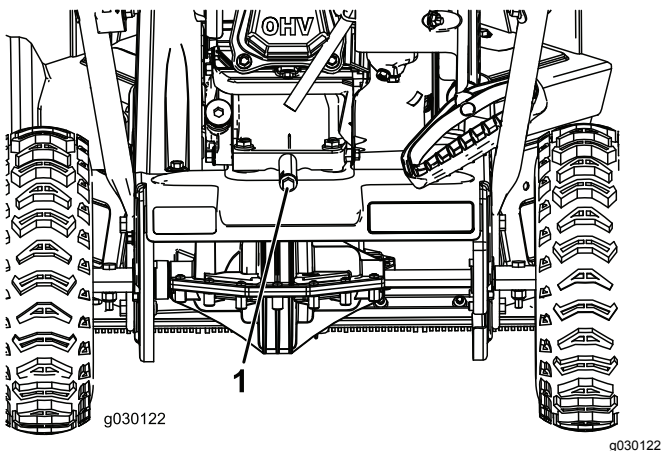

Figure 19
2. Clean the area around the oil-drain plug (Figure 19).
3. Place an oil-drain pan under the oil-drain plug, remove the oil-drain plug, and tip the machine backward and drain the used oil in the oil-drain pan (Figure 19).